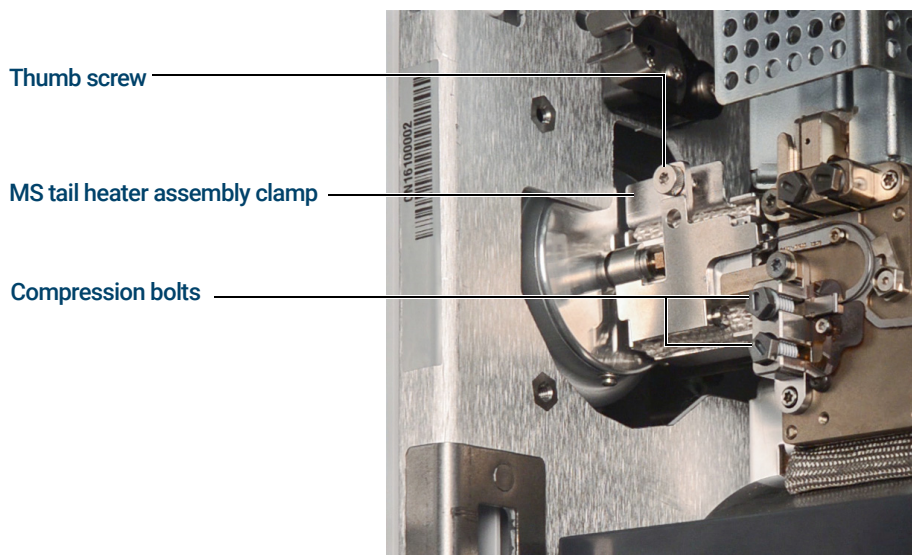

Figure 13. MS tail heater assembly clamp closed
- 9 Using the Intuvo torque driver, remove the compression bolt that secures the 9000 GC/MS Tail click and run bus connection. Also remove the bolt from the empty bus connection. (See **Figure 13.**)